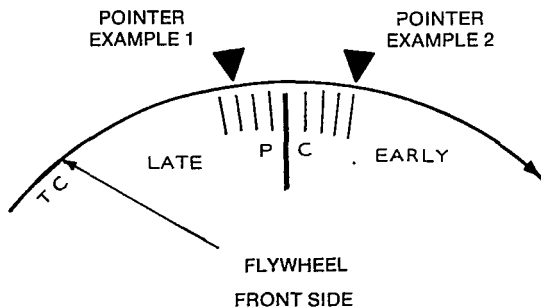

FIGURE 18. TIMING MARKS
- A. Mark flywheel in 0.1 inch (2.54 mm) graduations (about five marks each direction) from PC mark for calculating required change in button thickness, Figure 18.